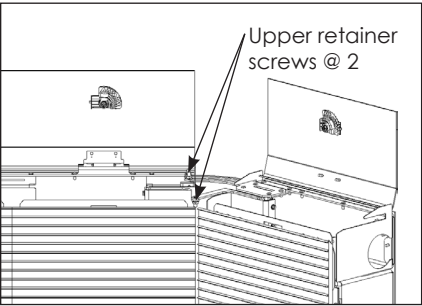
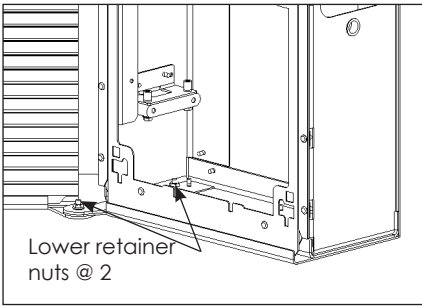

Figure 21: Secure Upper Retainer Hardware
Figure 22: Secure Lower Retainer Hardware
4. Secure the retainer nuts in the upper and lower support brackets into the left vertical of the wing to keep the wing from rotating. The torque required is 20 ft-lbs. Refer to **Figure 21** and **Figure 22**.